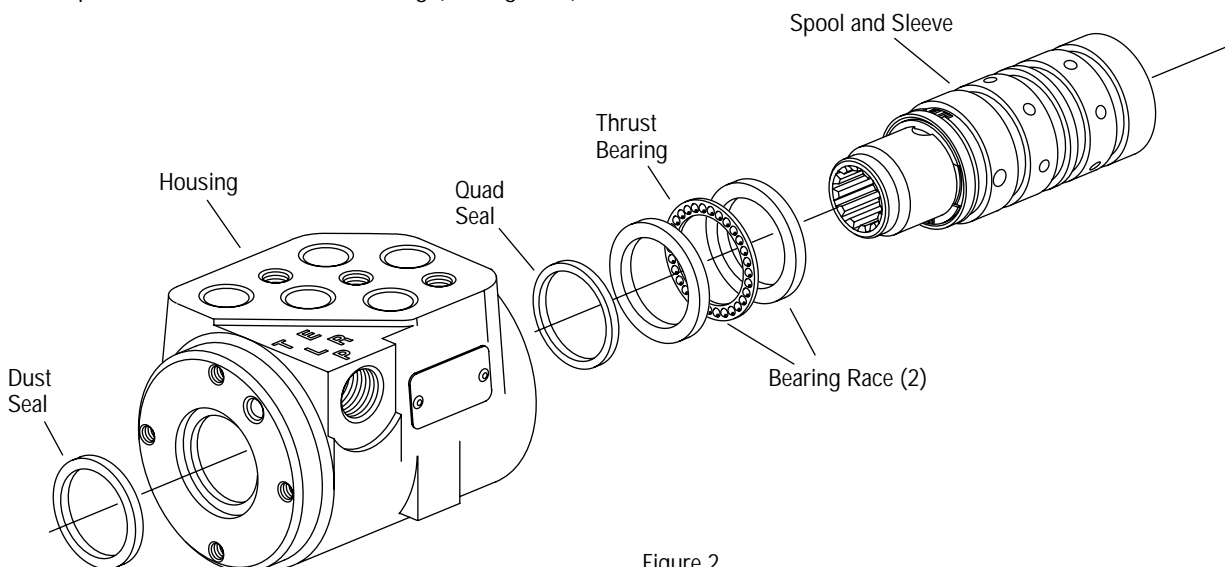

Figure 2
3 Slide the spool and sleeve from the housing (see Figure 2).
- 17 Put the thrust bearing and races into the housing. The thrust bearing goes between the two races (see Figure 2).